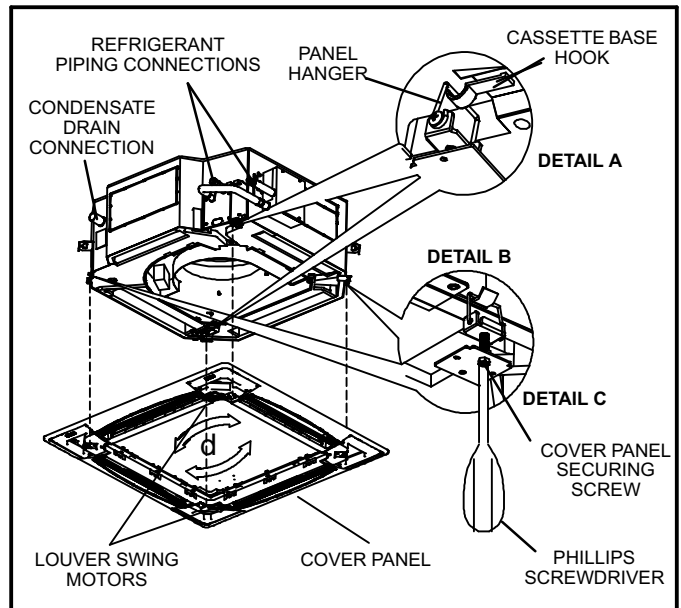

Figure 16. Install Cover Panel
- 5 - Locate the cover panel hangers on the two corners with the louver swing motors. Place these two hangers on the corresponding hooks on the corners of the cassette base. See detail A in figure 16. Then, place the other hangers from the other two corners over their corresponding hooks on the cassette base as shown in detail B in figure 16.
- 9 - Tighten the provided screws in the bracket in the cover panel immediately below each panel hanger. See detail C in figure 16. Adjust the cover panel by turning slightly clockwise, if necessary, to make sure that the panel is properly aligned with the cassette base.